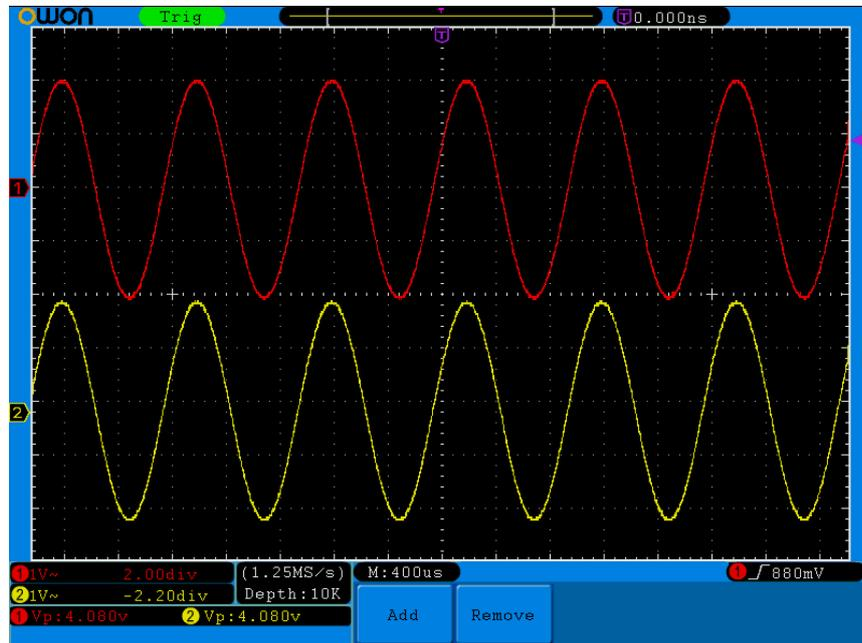

Fig.6-2 Waveform of Gain Measurement
- (1) Press the **Autoset** button and the oscilloscope will automatically adjust the waveforms of the two channels into the proper display state.
- (2) Press the **Measure** button to show the Measure menu.
- (3) Press the **H1** button.
- (4) Press the **F2** button and choose **CH1**.
- (5) Press the **F1** button and turn the **G** knob to choose **PK-PK**.
- (6) Press the **F2** button and choose **CH2**.
- (7) Press the **F1** button again and turn the **G** knob to choose **PK-PK**.
- (8) Read the peak-to-peak voltages of Channel 1 and Channel 2 from the bottom left of the screen (See Fig.6-2).
- (9) Calculate the amplifier gain with the following formulas.